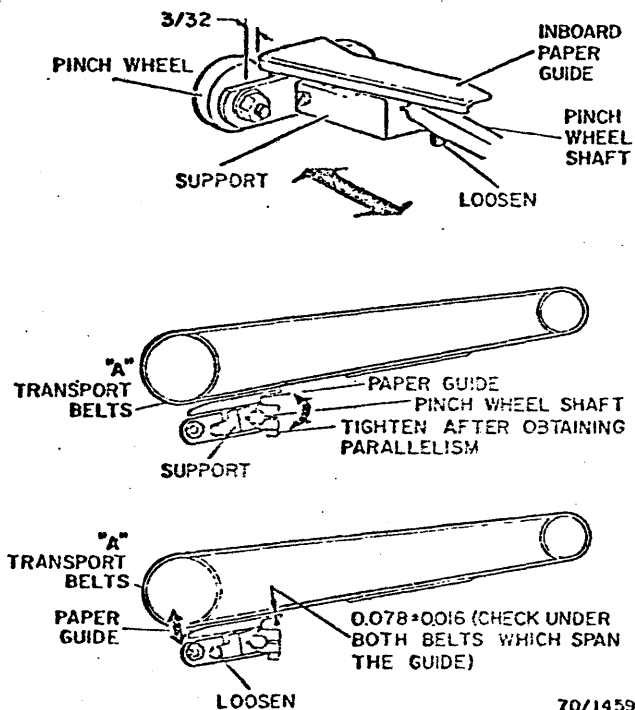

Fig. 3-103. Paper Guide
1. Loosen the screw securing the support to the pinch wheel shaft. Slide the paper guide support on the shaft to obtain a 3/32-inch separation between the paper guide and the adjacent pinch wheel, as in the upper view of Fig. 3-103.
2. While maintaining the 3/32-inch separation, pivot the paper guide support until the paper guide is parallel with the A transport belts, as in the center view of Fig. 3-103. Retighten the screw.
3. Loosen the screw indicated in the lower view of Fig. 3-103. Vertically adjust the paper guide to obtain 0.078 ± 0.016 -inch separation between the paper guide and the belt. Retighten the screw.